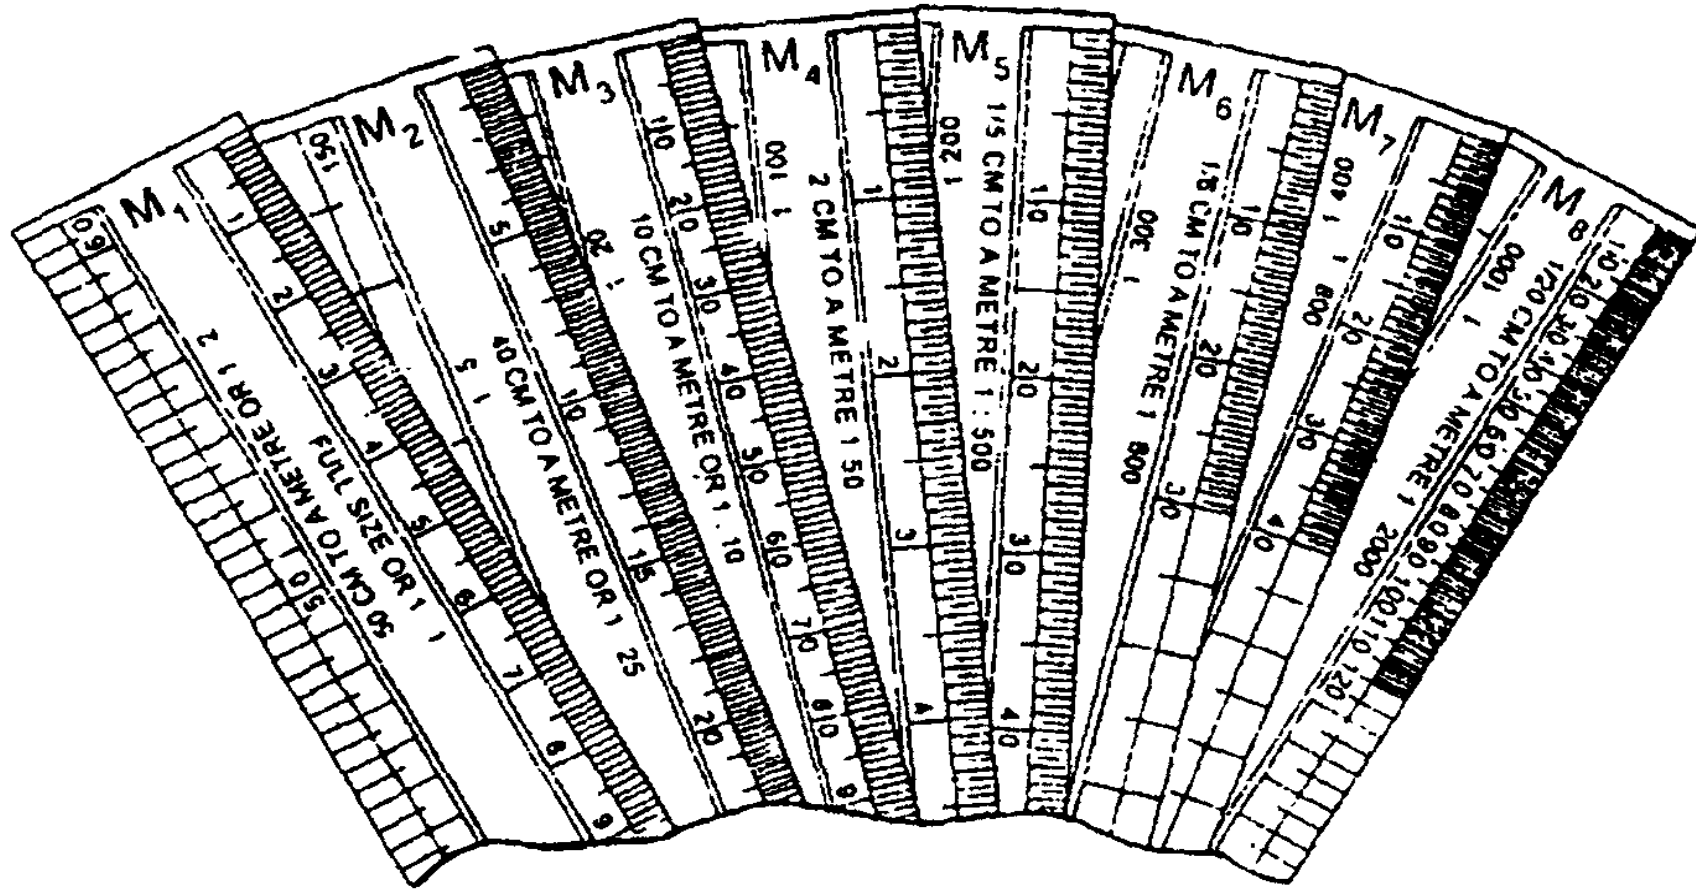

Fig. 1.3 Set of scales
- Scales are used to make drawing of the objects to proportionate size desired. These are made of wood, steel or plastic (Fig.1.3). BIS recommends eight set-scales in plastic/cardboard with designations M1, M2 and so on as shown in Table 1.1 Set of scales: